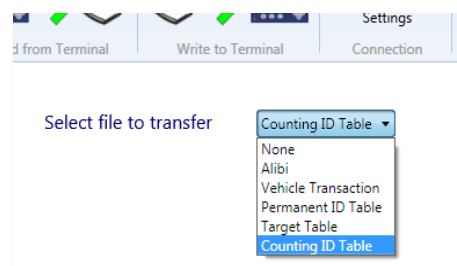

Figure 3-7: File selection dialog
- On the Home tab of the IND246 File Transfer Tool, use the File selection dialog to select the file to written to the terminal, as shown in Figure 3-7.